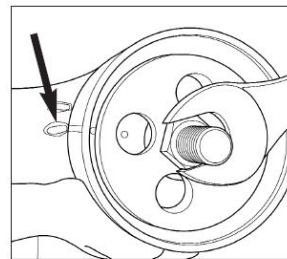

Fig 4.38
7. Rotate the funnel "D" so that the mark is aligned to the mark on the trailing arm (Fig 4.38)